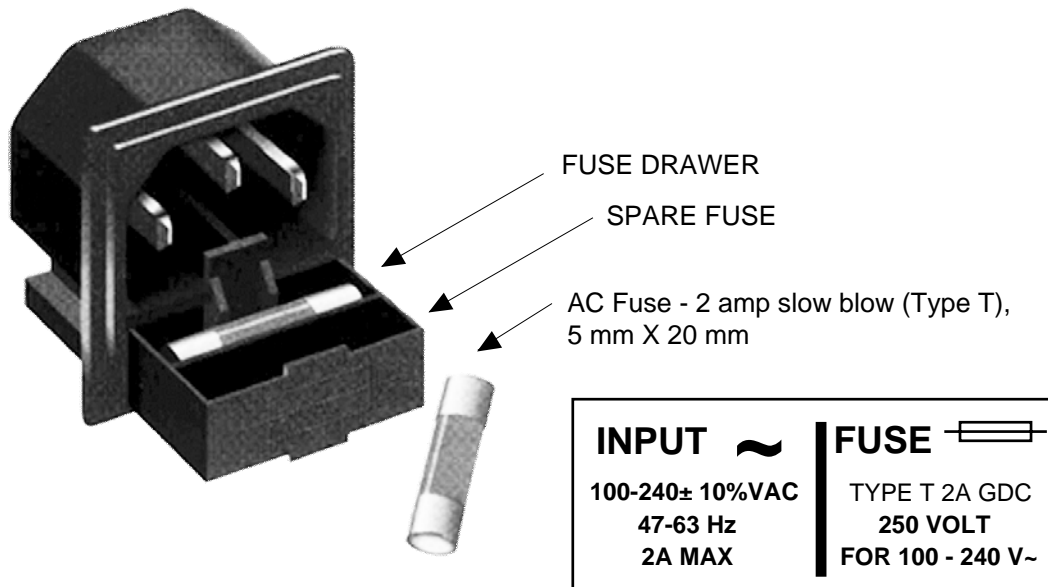

Figure 2.3 Fuse Location and Spare Fuse
- 5.) **AC Fuse** - The fuse is a 5 mm X 20 mm, 2 amp slow blow (Type T) and is inserted in the far slot in the drawer below the AC input as shown in Figure 2.3. There is a spare fuse in the near slot. If a fuse continues to open, the power supply is most likely defective.